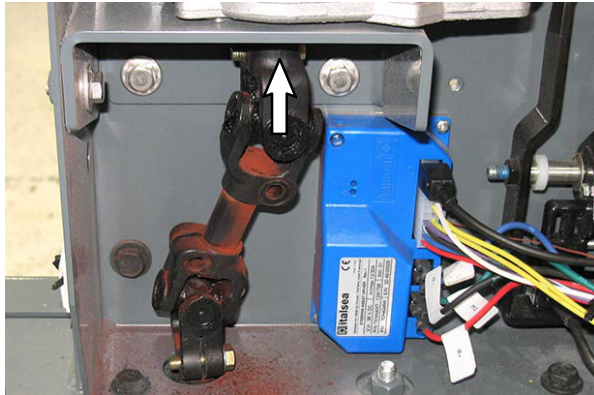

FIG. 3
4. Disconnect the lower power steering shaft from the bottom power steering motor shaft. Set the SEMS M8 hex screw aside. (Fig. 3)